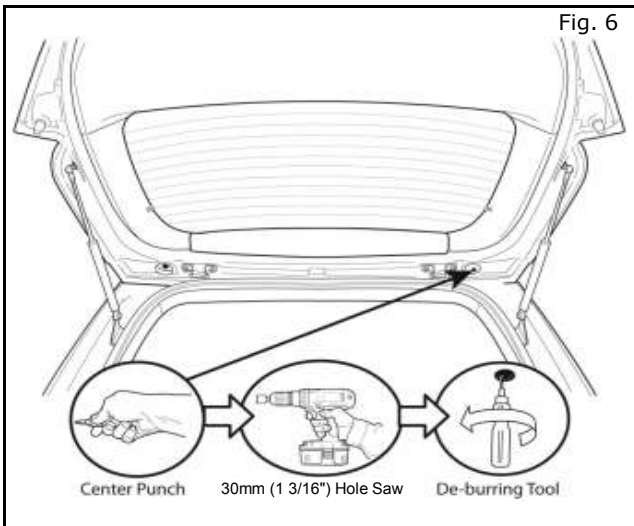

Fig. 6
- j) Cut out paper template on last page of instructions. Use template to locate center of the 30mm access hole on the RH side of the liftgate. Hole should be symmetrical to the existing hole on LH side of liftgate. (Fig. 6)
- k) Place a punch mark for the passenger side access hole. (Fig. 6)
- l) Using the hole saw, drill a 30mm access hole at the punch mark location. (Fig. 6)
- m) De-burr the hole and remove the metal chips. (Fig. 6)